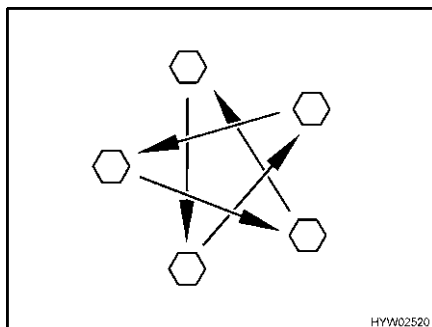

Fig. 161 Tighten the wheel nuts or wheel bolts cross-wise
- Check regularly that the wheel nuts or wheel bolts are firmly seated. Re-tighten the wheel nuts or wheel bolts of a changed wheel cross-wise (Fig. 161) after 50 km (30 miles). See section 13.5.2 for tightening torque.
- ▷ Tighten the wheel nuts or wheel bolts cross-wise (Fig. 161).